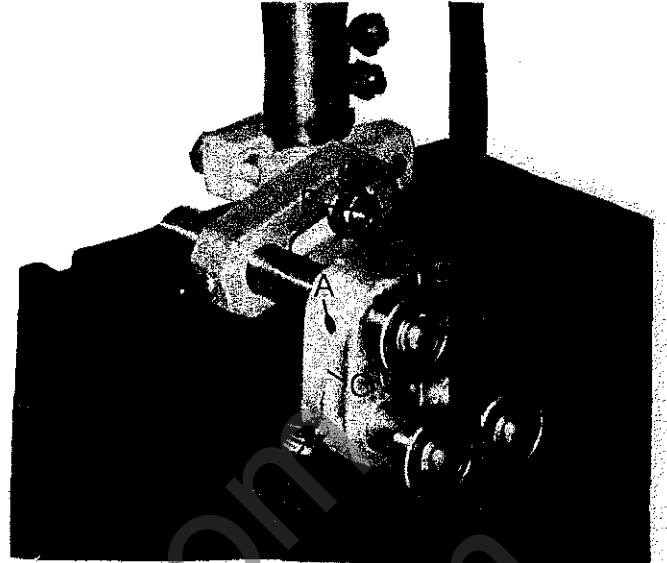
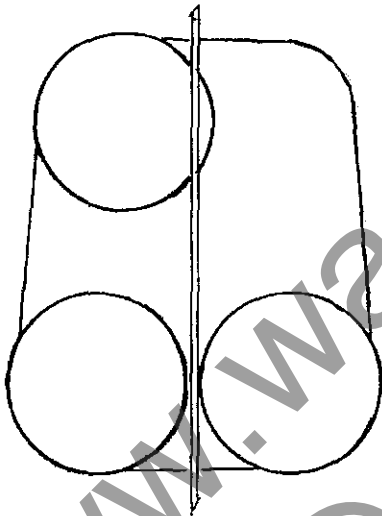
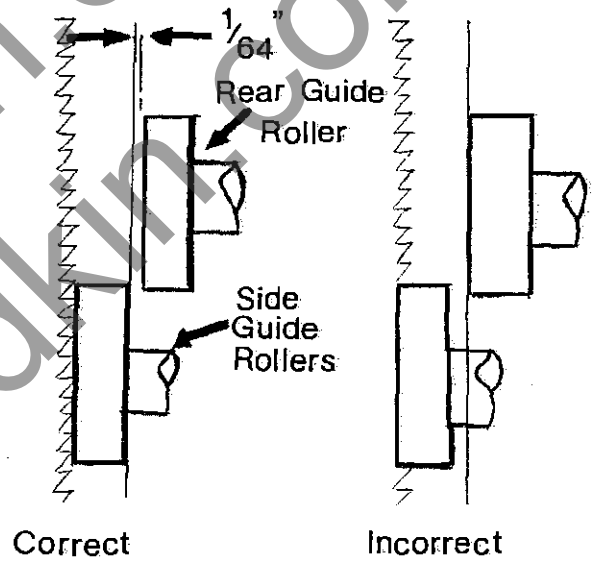

FIG 12
FIG 13
FIG 14
A sawguide unit "A", FIG.12, is fitted above the table and is fully adjustable for adequate sawblade support. The unit is fitted with ~~TEFLON~~ support blocks and a long life bearing.
3. Loosen grubscrew "A" and M10 nut "B", FIG.12. then position guide body "C" central and parallel to blade SEE FIG.13, then tighten up grubscrew "A" and M10 nut "B", FIG.12.
4. Slacken thumb screw "Y" FIG.12, and set rear guide roller 1/64" clear of back of blade, lock up thumb screw "Y".
5. Slacken thumb screws "X" FIG.12, and move side guide forward as positioned in FIG.14, then pivot side guide rollers on anti lock eccentrics just clear of blade FIG.13, and lock thumb screws "X"